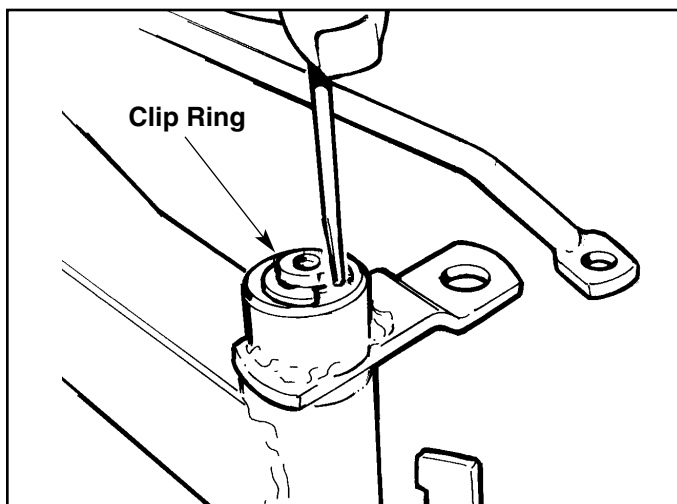

Figure A-13. Remove Retaining Ring
4. Using a flat blade screwdriver, position the tip of the screwdriver blade at the open end of the steering arm clip ring, and twist the blade against the clip ring to force the ring partially out of the groove (Figure A-13).